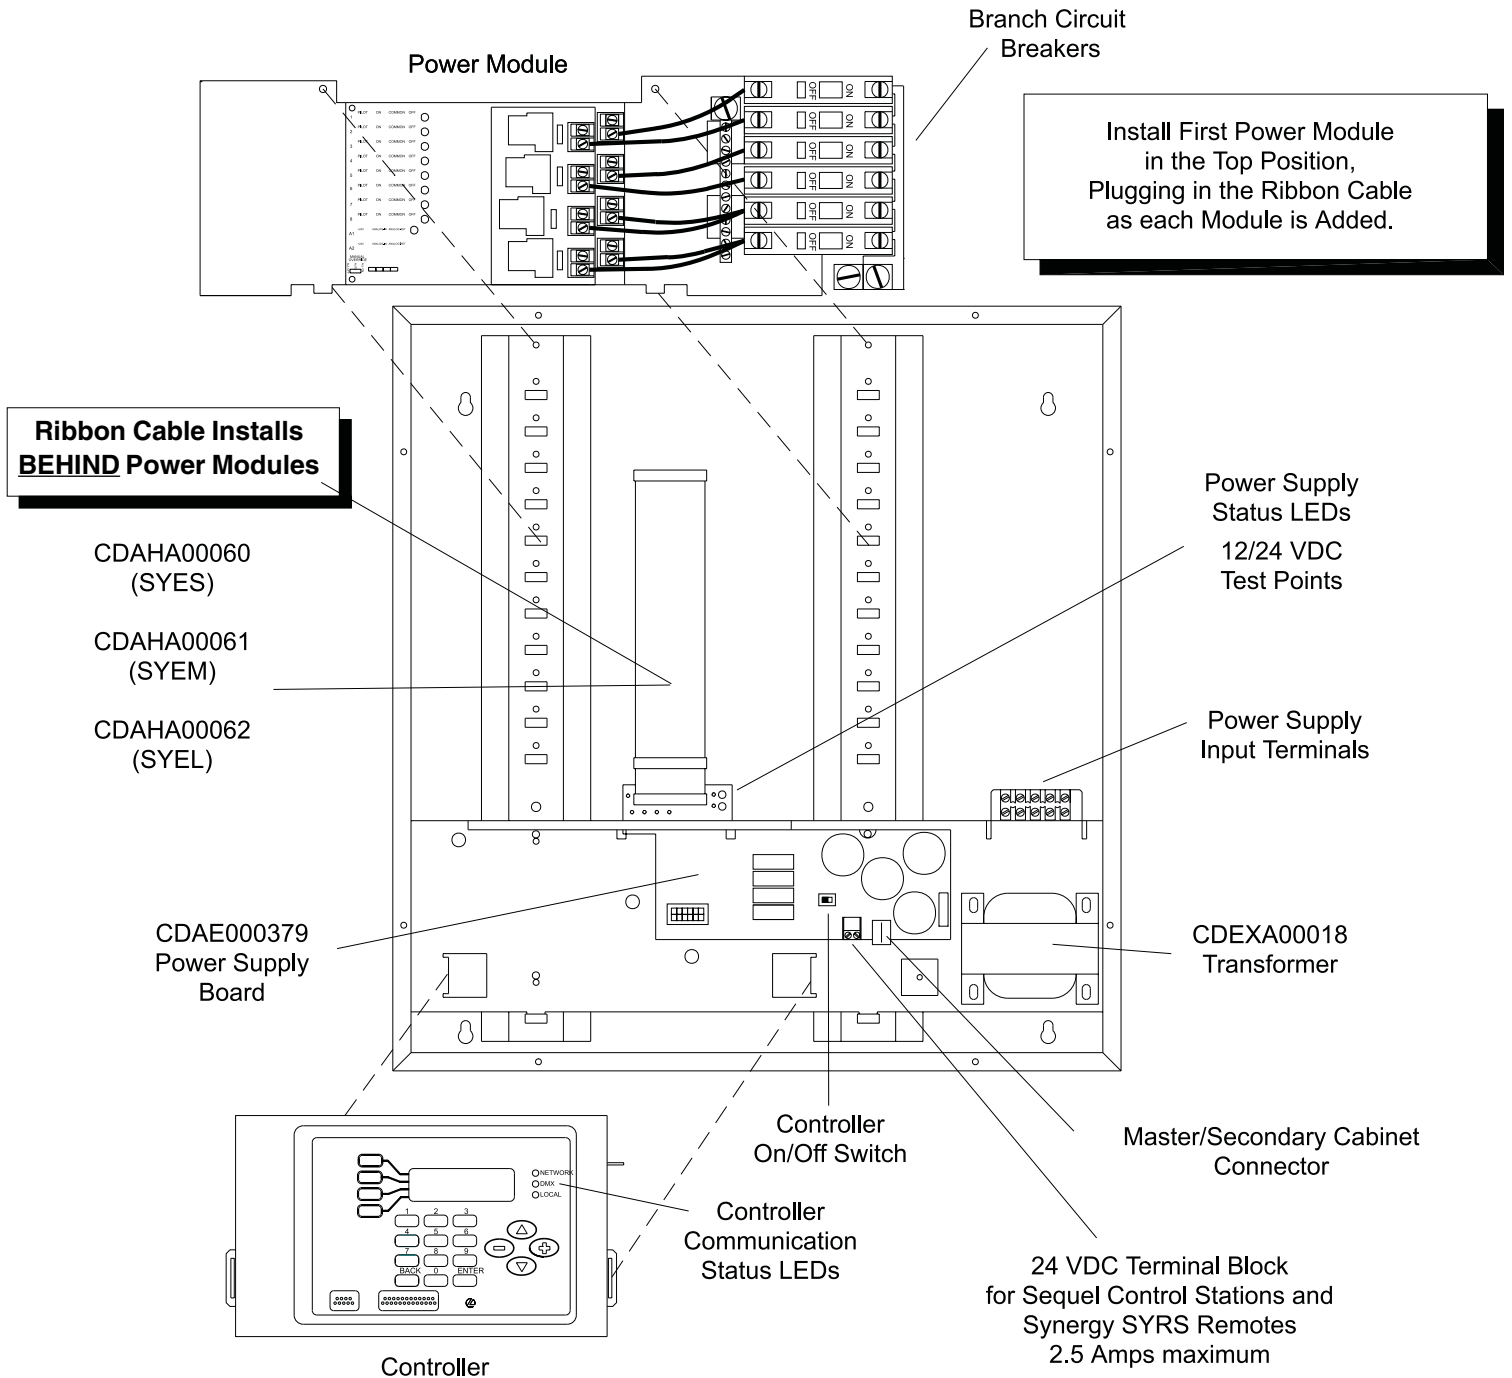

Figure 5 - Part Number and Voltage Test Point Reference Information
2. The power supply input should remain un-powered until the power modules are installed and terminated. The controller "on/off" switch should remain in the "off" position until the controller is installed. See Figure 5.